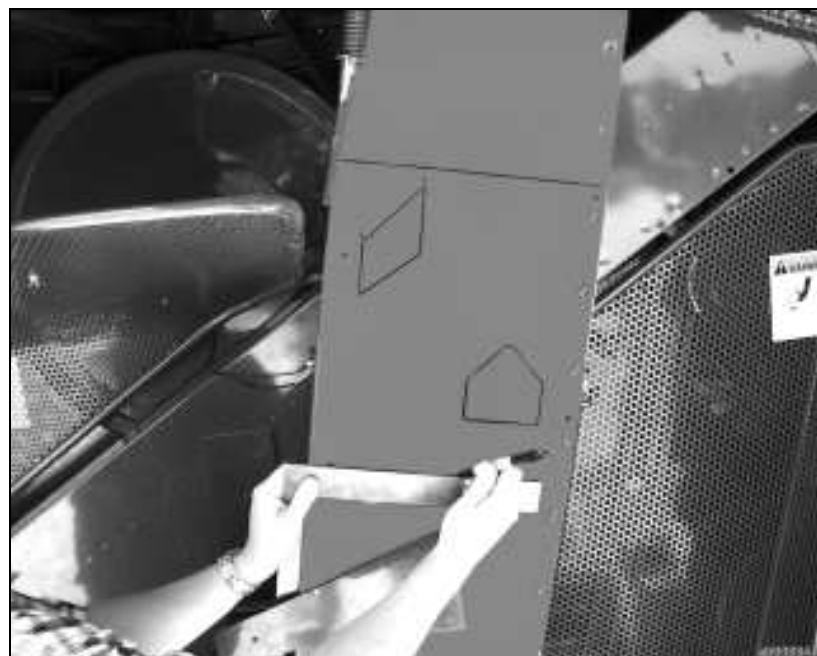

Figure 17. Holes and cutouts marked
4. Trace inlet and outlet holes using permanent marker. Also mark locations for (4) mounting holes and (1) access hole. See Figure 17.